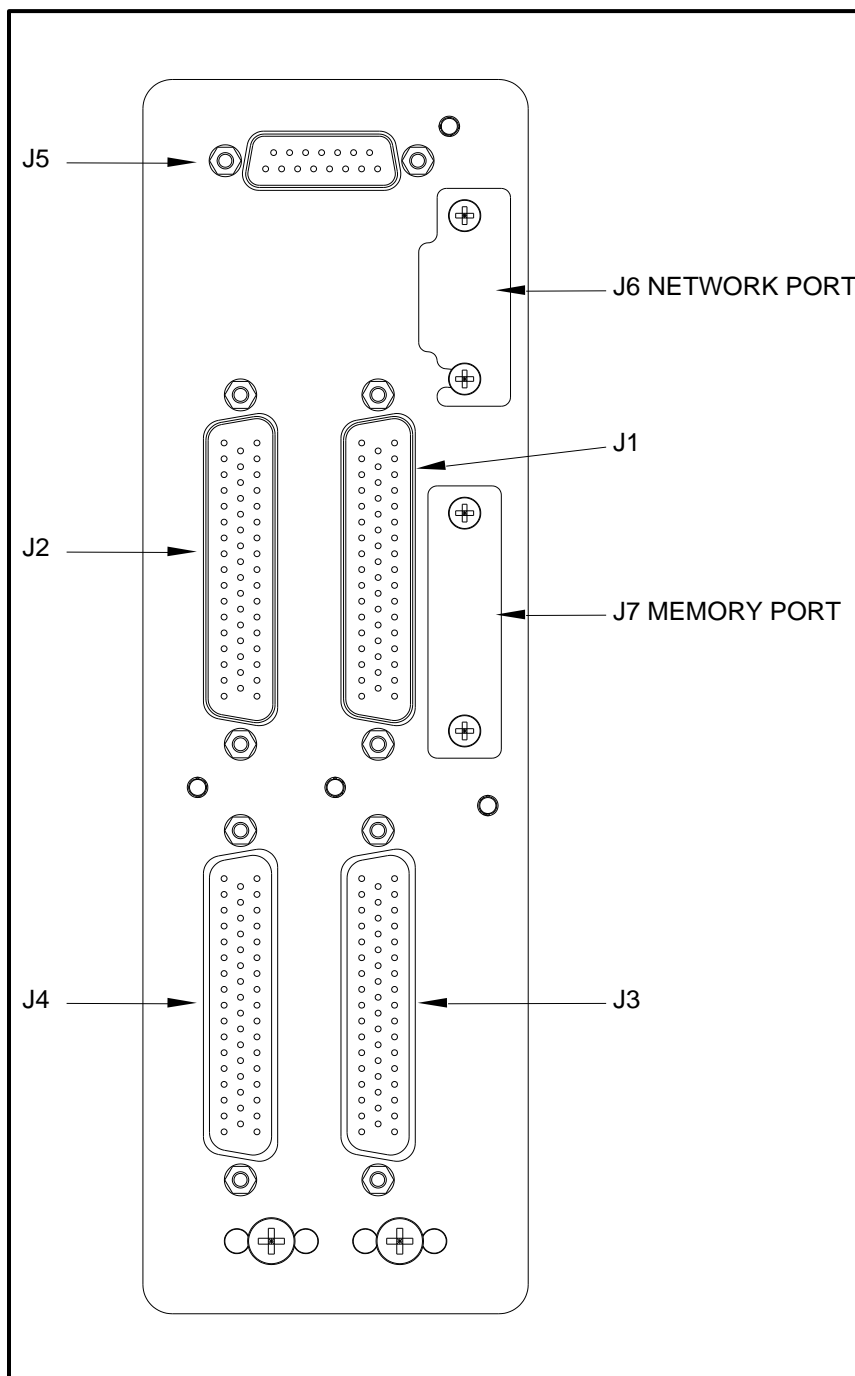
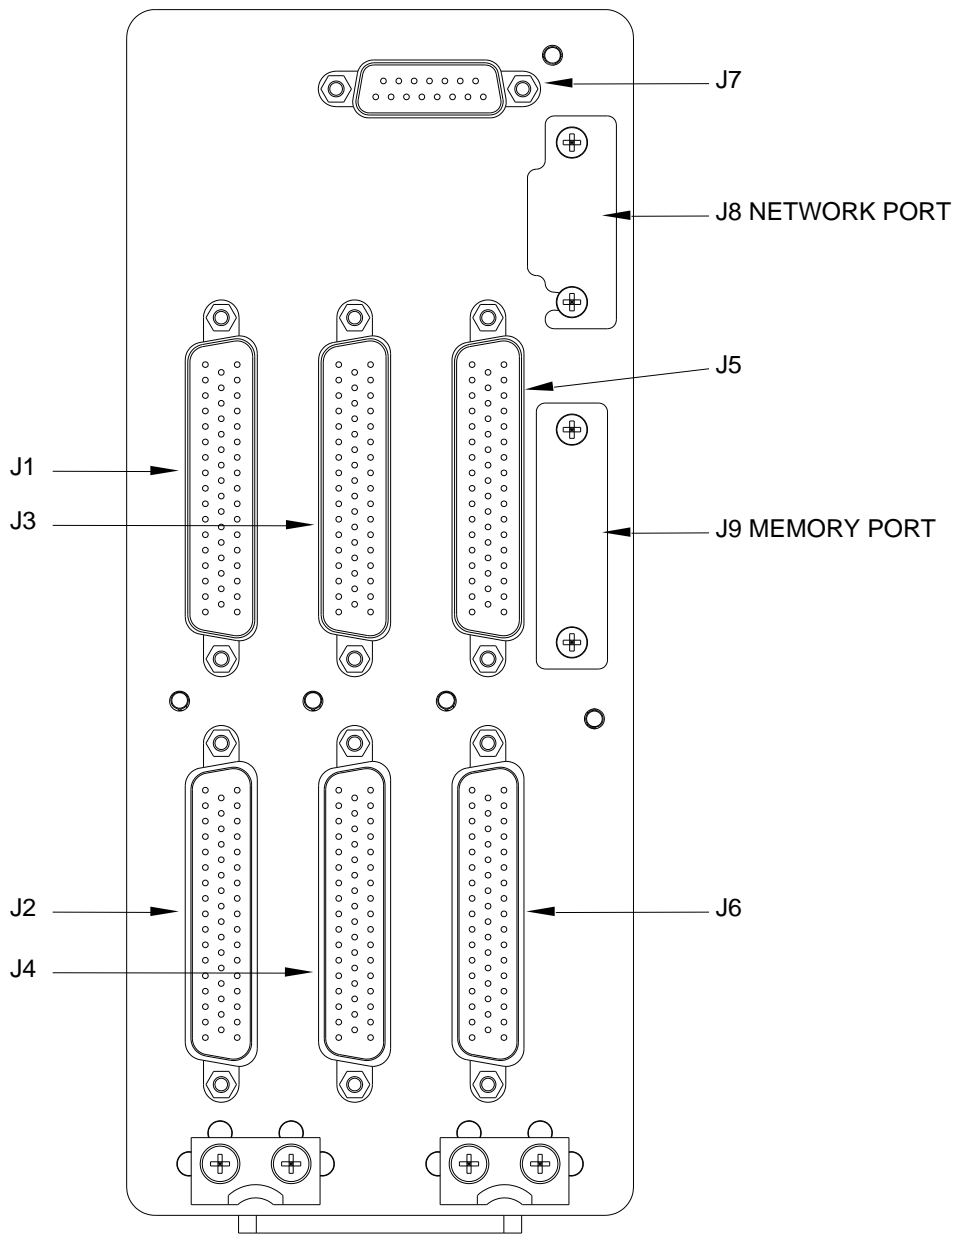

Figure 18: G13000 Digital Router Connector Layout
Figure 19: G13160 Digital Router Connector Layout
- f. Reconnect all applicable cables to the Digital Router. Reference Figure 18 and Figure 19 for all Digital Router Connection Ports.